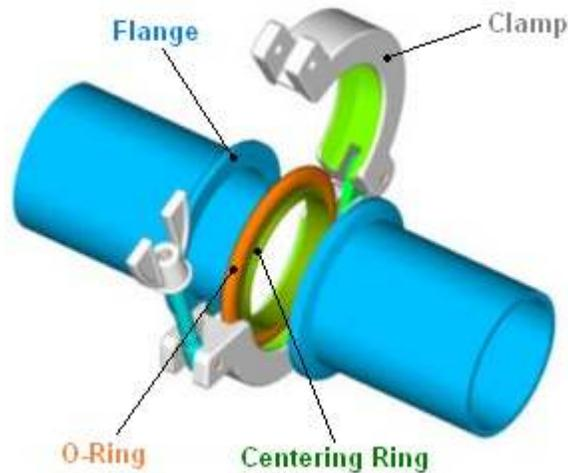

Figure 2
- 3 - Identify the pump exhaust and remove the NW 25 clamp and blanking cap. Leave the NW25 centering O-ring in place. Place the NW25 to ½"NPT adapter on the NW25 centering O-ring and use the NW25 clamp to attach the adapter to the pump exhaust. The centering O-ring is clamped between the flanges as shown in Figure 2. Screw the exhaust filter in the adapter with the ½" NPT thread.
3 - Mount the 3-way ball valve on the conical adapter using a NW16 centering O-ring and a NW16 clamp. The centering O-ring is clamped between the flanges as shown in Figure 2. Position the ball in-line with the pump so that the gray handle point in the direction of the coater which will be pumped.